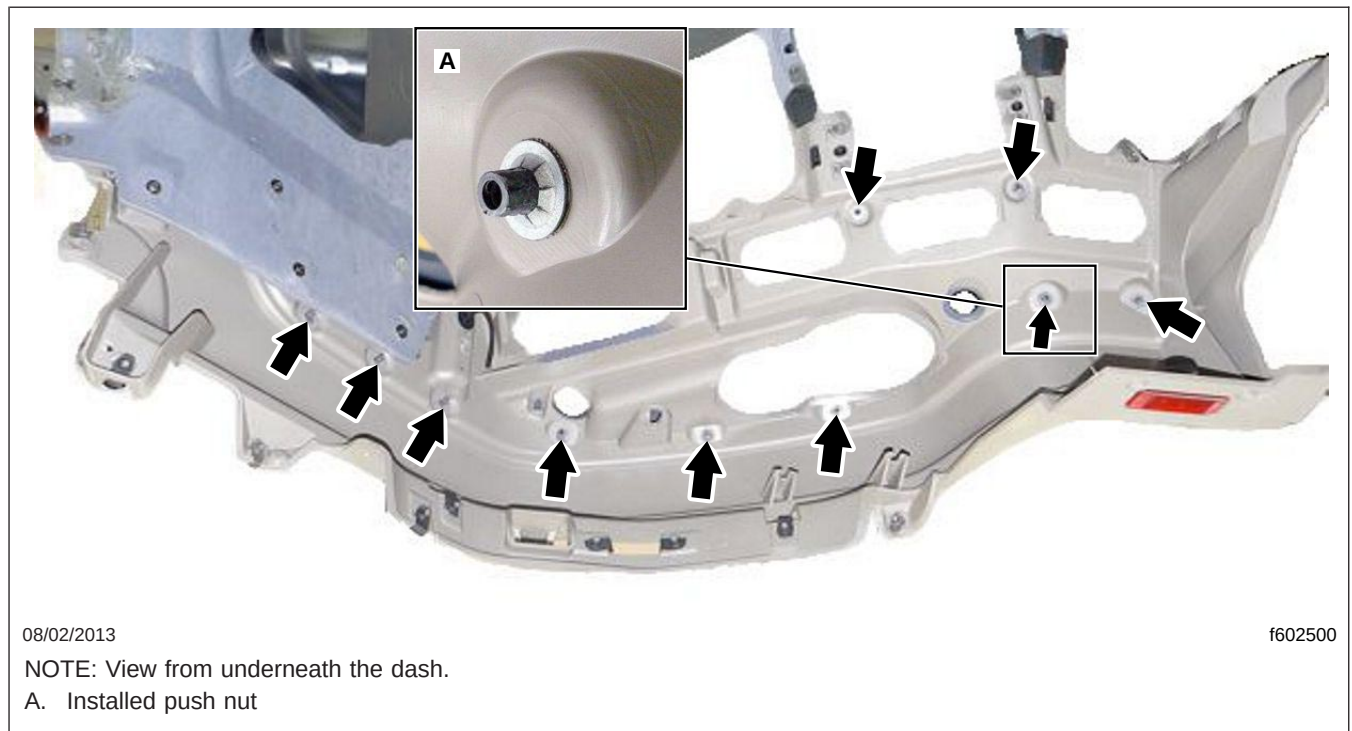

Fig. 5, Push Nut Locations
13. From underneath the dash, install ten 1/4-inch push nuts on the heat-stake studs. See Fig. 5.